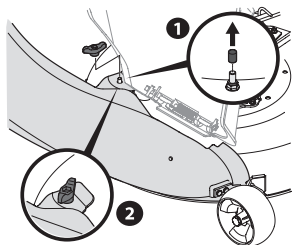

Figure 14
2. Secure the boot to the deck using a wing knob (720-04122) from hardware pack 689-00567. See Figure 14.
NOTE: If present, remove the protective cap off of the mounting stud on the mowing deck as shown in the upper inset of Figure 14.